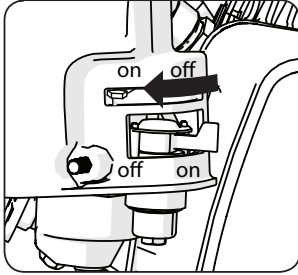

Fig 12
- Set the choke lever to the 'Choke On' position. **(Fig. 12)**